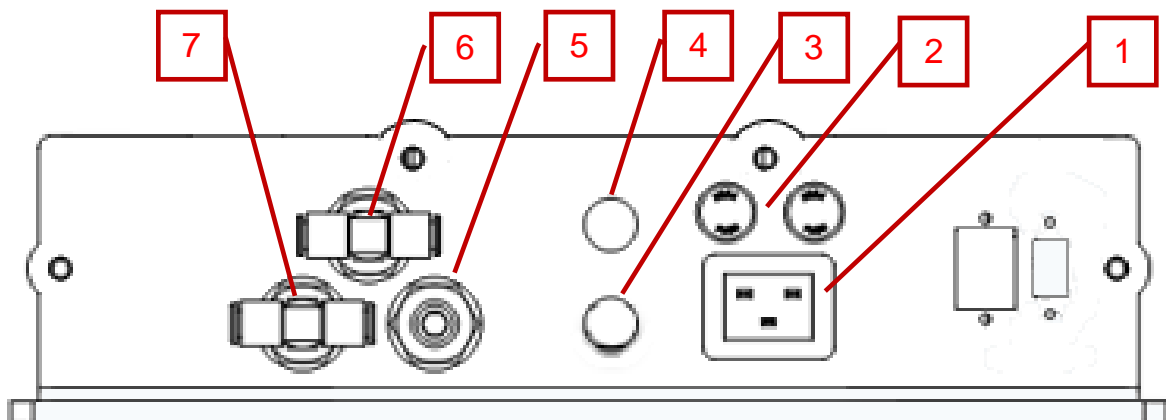

Figure 4: Cee® Apogee® 300 Flange Bake Facilities Connections
3. Connect utilities per the reference diagram in Figure 4: Cee® Apogee® 300 Flange Bake Facilities Connections